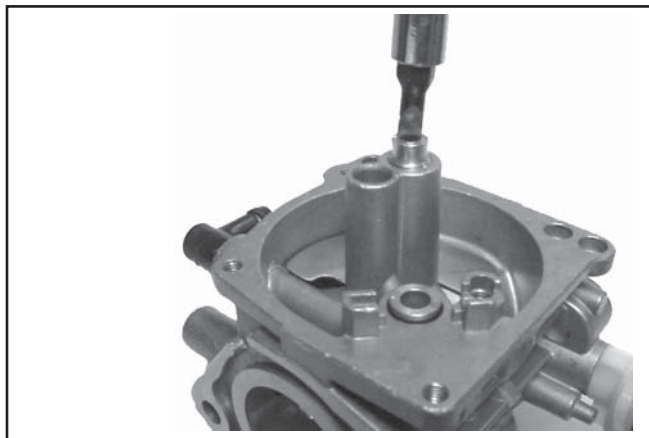

Figure 5-18. Installing Main Nozzle and Main Jet.
8. Install the main nozzle and the main jet into the tower of the carburetor body. See Figure 5-18.